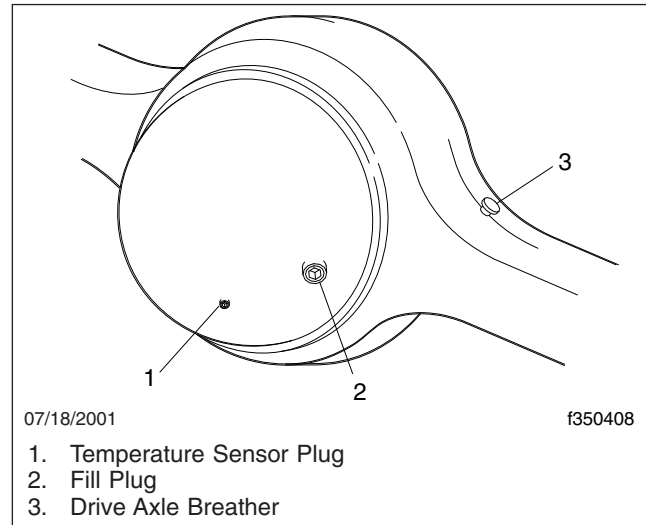

Fig. 8, Drive Axle Housing
3. Clean the oil fill plug and the area surrounding it. Remove the fill plug. See Fig. 8.